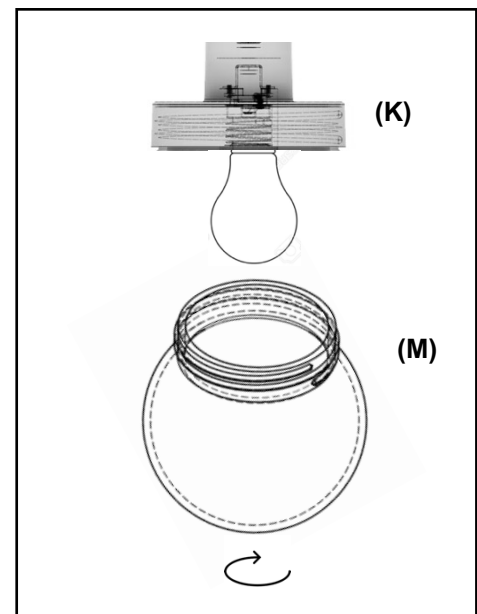

Fig 3
- 8) Carefully rotate the Glass cover (M) within the Metal cap (K) in a clockwise direction by hand until you feel it lock tight (Fig 3)